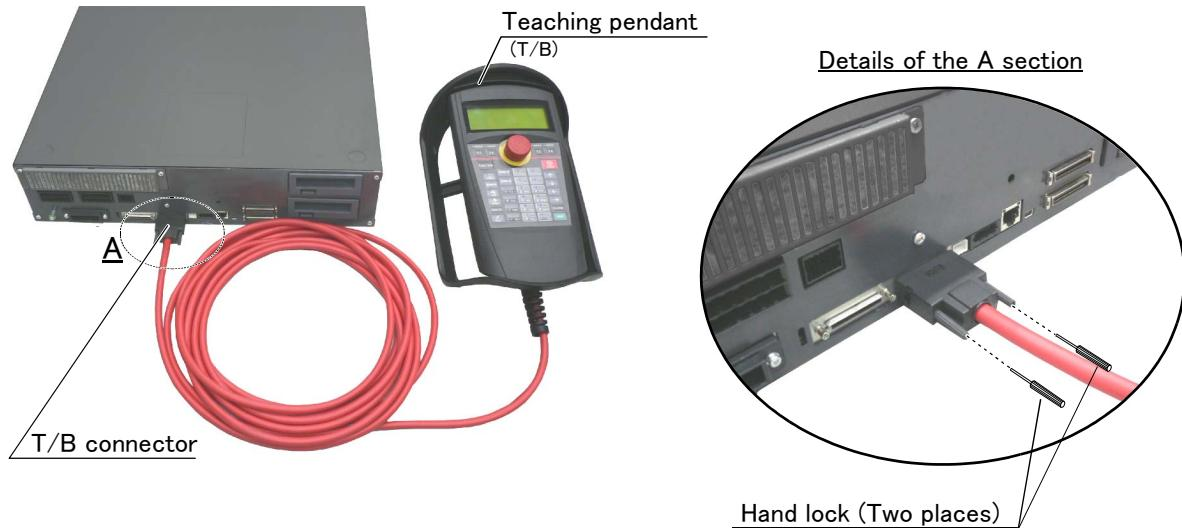

Fig. 2-9 : Installing and removing the T/B (CR751controller)
- 2) Connect the T/B connector to the controller's T/B connector. Make sure to fix it securely by fastening the hand locks (in 2 places), as shown in Fig. 2-9.